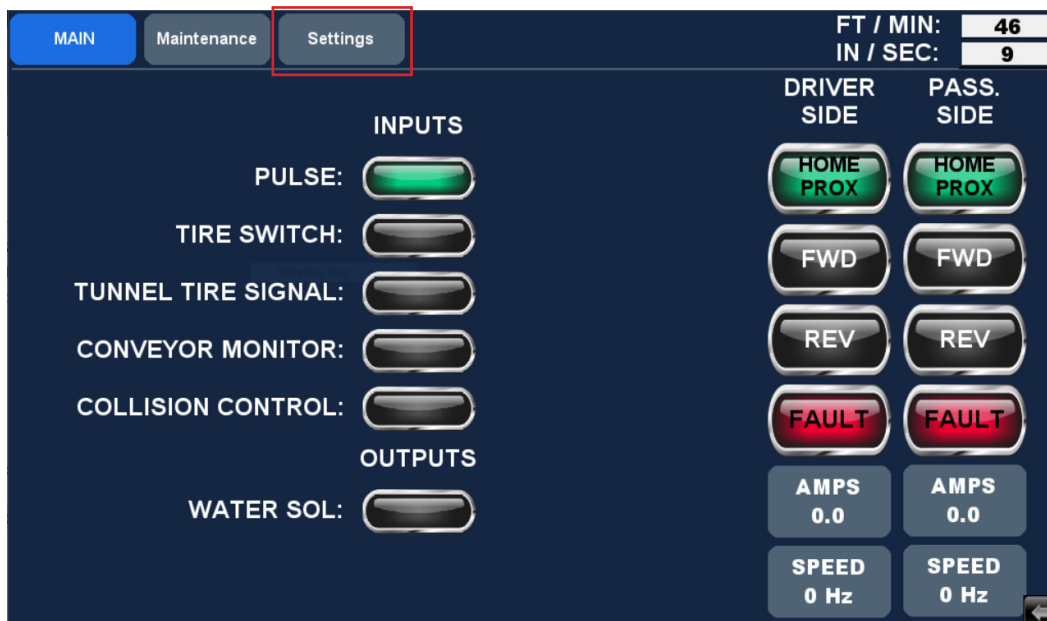

Fig. 4.2 - 1 - HMI Main screen
1. From the **Main** screen, press the **Settings** button (Fig. 4.2 - 1).